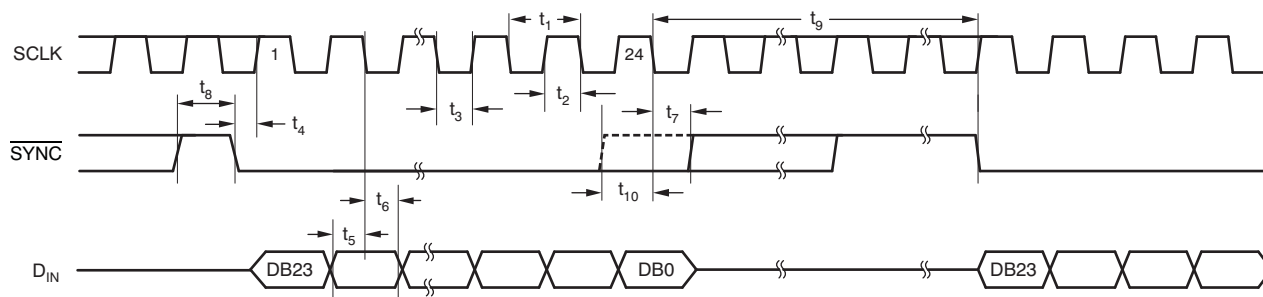

Figure 1. Serial Write Operation
(1) All input signals are specified with $t_R = t_F = 3\text{ ns}$ (10% to 90% of V_{DD}) and timed from a voltage level of $(V_{IL} + V_{IH}) / 2$.
(2) See Figure 1.
(3) Maximum SCLK frequency is 3.0 MHz at $V_{DD} = 3.6\text{ V to }5.5\text{ V}$ and 20 MHz at $V_{DD} = 2.7\text{ V to }3.6\text{ V}$.